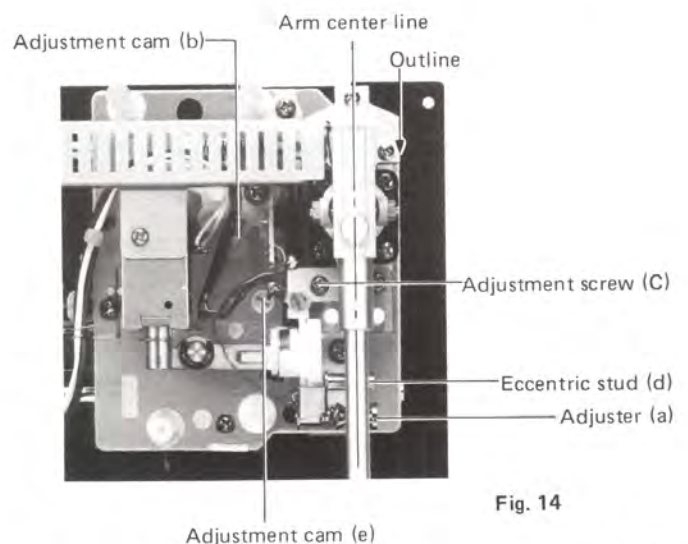

Fig. 14
With the elevator lifted up, adjust the parallelism between the center line of the pipe arm (see Fig. 14) and the longitudinal outline of the mechanism base by adjuster (a).
**Note:** The stylus height, when the tonearm pin is in contact with adjuster (a) and eccentric stud (b) shown in Fig. 14 and 15 at the same time, should be 3.5 mm from the record surface.
1. With the test record (RG325), adjust the "30-cm" lead-in count to  $20 \pm 3$  by adjustment cam (e) shown in Fig. 14.